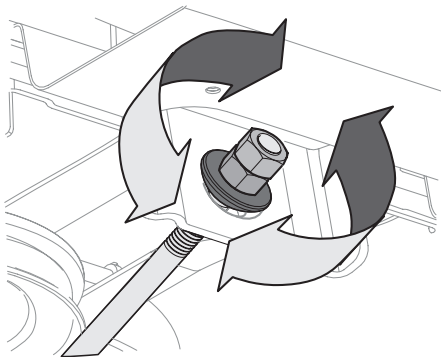

Figure 26
4. To **raise** the front of the deck, loosen the outer nut then tighten (thread inward) the inner nut against the front hanger bracket. See Figure 26. When proper adjustment is achieved, re-tighten the outer nut to 25-30 ft-lbs (34-41 N-m).
5. To **lower** the front of the deck, loosen the outer nut then loosen (thread outward) the inner nut, away from the front hanger bracket. See Figure 26. When proper adjustment is achieved, re-tighten the outer nut.